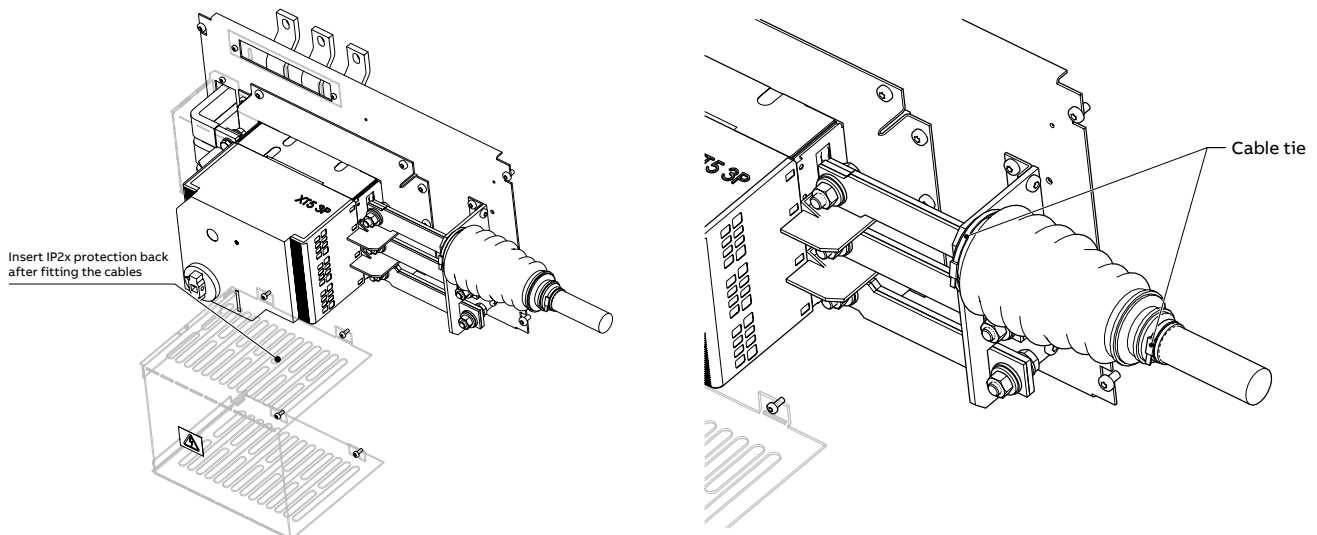

Figure 4-68 Installation of cables to fix module incoming
- Cables for fixed module incomers need to use bellows in addition to the IP2x touch protection. For standard solution only middle phases are covered by bellows, for arc proof solution all phases are covered. Cables must be fitted with bellows before fastening the cables to the CT bar or breaker. Bellows have to be fitted either against the supports of CT bars or against the MCCB and secured with a cable tie. See Figure 4-68. The bellows and fasteners are provided by the manufacturer. IP2x touch protection has to be fitted back after connecting the cables.